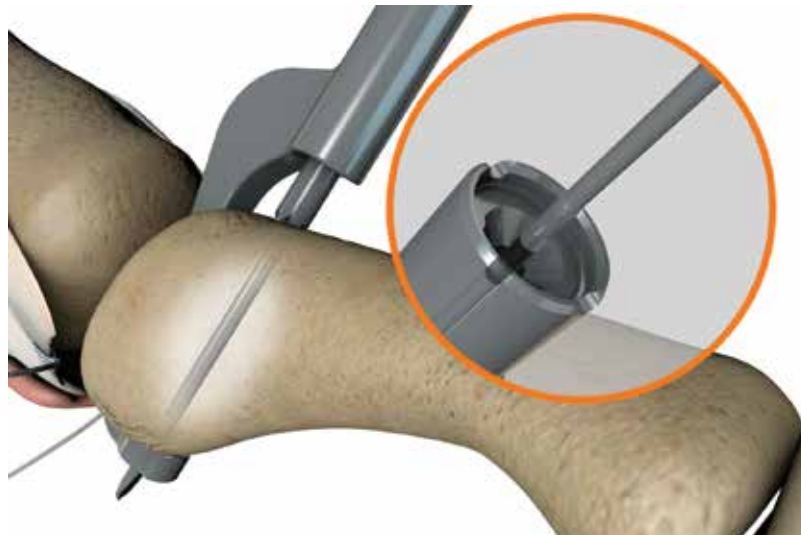

Figure 15
2. Drill the K-wire until the proximal end of the depth mark on the K-wire is flush with the proximal end of the drill guide (Figure 15).